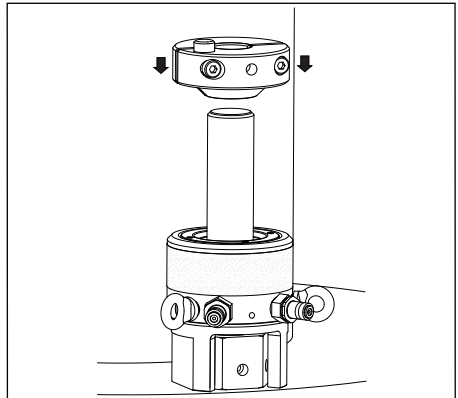

FIGURE 9, SLIDE QUICK-FASTENING REACTION NUT INTO PLACE
3. Slide the Quick-Fastening reaction nut over the remaining bolt thread protrusion, tapered side toward the AquaJack, and squeeze the nut halves together until the locking mechanism engages. See Figure 9.